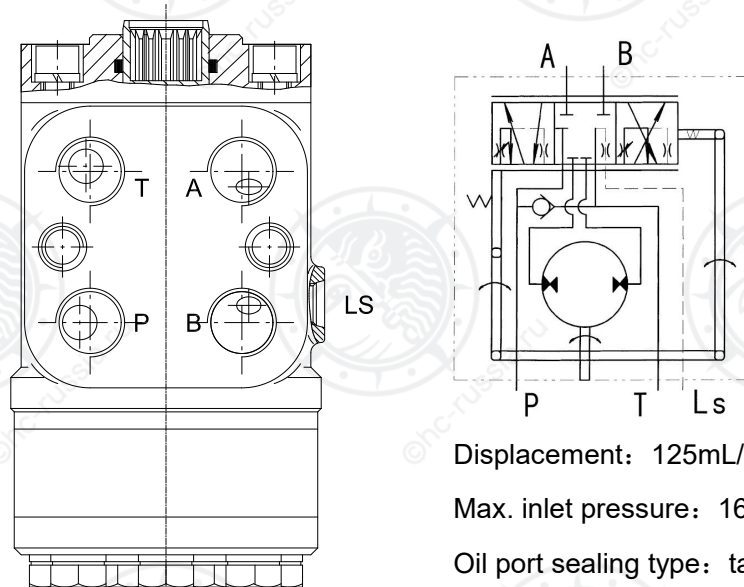

Fig.7-2-2 Hydraulic steering gear schematic diagram
3.2.2 Load sensing type hydraulic steering gear (refer to Fig.7-2-2)